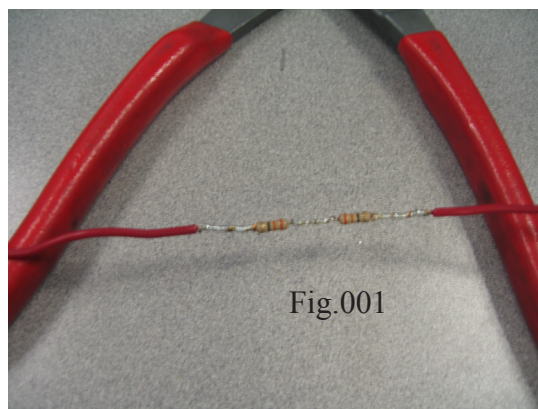

Fig.001
Step 1: Soldering the new 62 Ohms resistance (Fig. 001). On The Dodge NP271 the two resistors will need to equal 110 Ohms. Also solder the 1100 Ohms (Needed on JK Rubicon Jeeps and all 2012 and newer JK's) with resistor between the two 16 gauge wires. See diagram page 3.